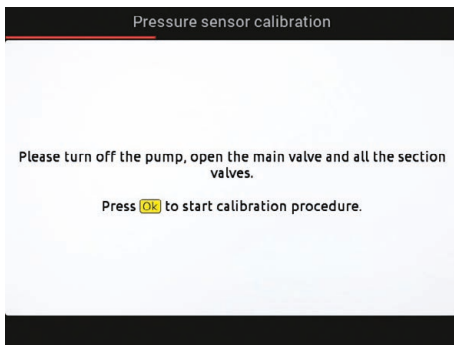

Fig. 141
- 2 The message in Fig. 141 is displayed: follow the instructions, then start the procedure by pressing **OK**.